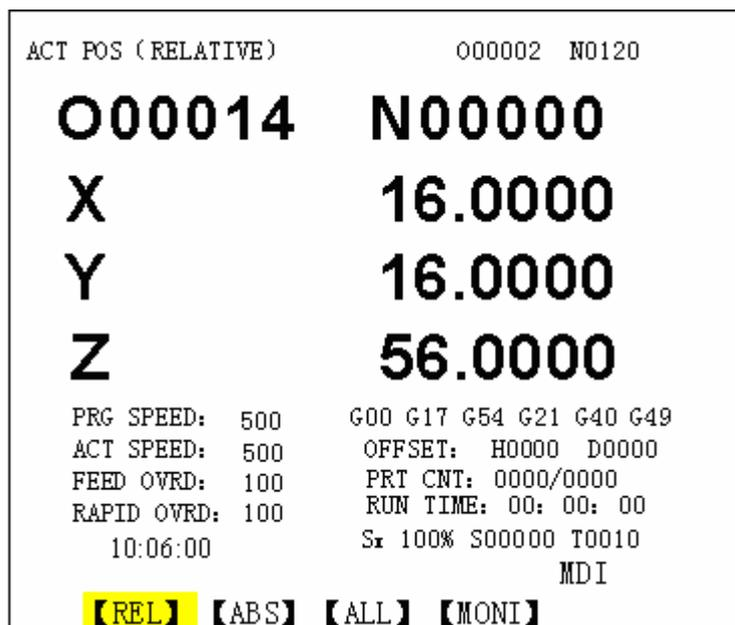

Fig. 3-1-2-1
The programming speed, the actual speed, feedrate and rapid override, G codes, tool offset, run time, part number, spindle override, spindle speed, tools etc. can be displayed in <POSITION> absolute or relative mode(see Fig.3-1-2-1).
- 1) Enter a mode that displays the relative coordinate;(Fig. 3-1-2-1)